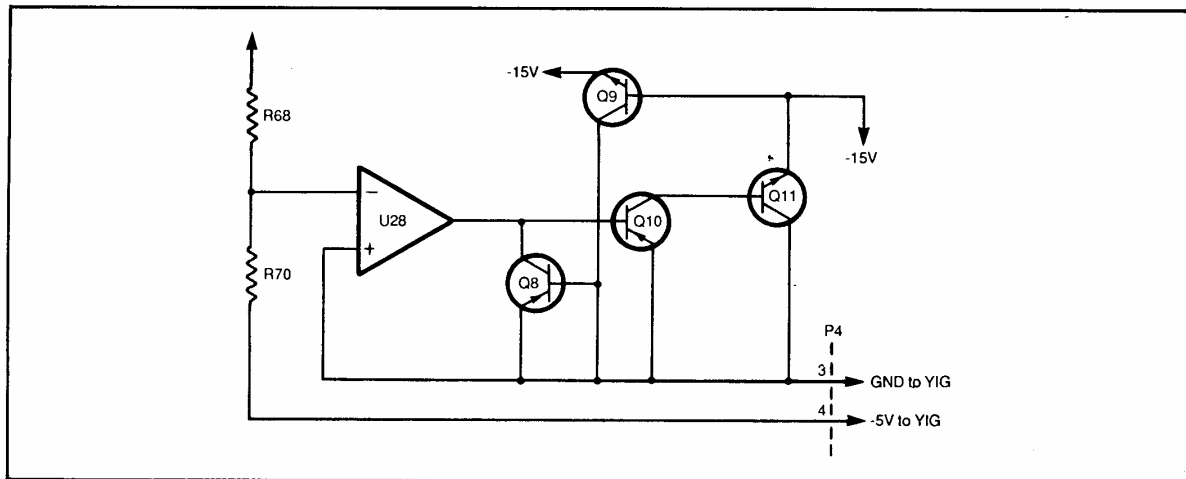

Figure 8-47. YIG Bias Circuit
3. The YIG Bias circuit (Figure 8-47) provides the -5V required by the YIG oscillator. Resistors R68 and R70 act as a voltage divider, setting up the bias voltage at the inverting input of U28. The output of U28 drives Q10 and Q11, resulting in the desired -5V output. Current overload shutdown is provided by transistors Q8 and Q9.